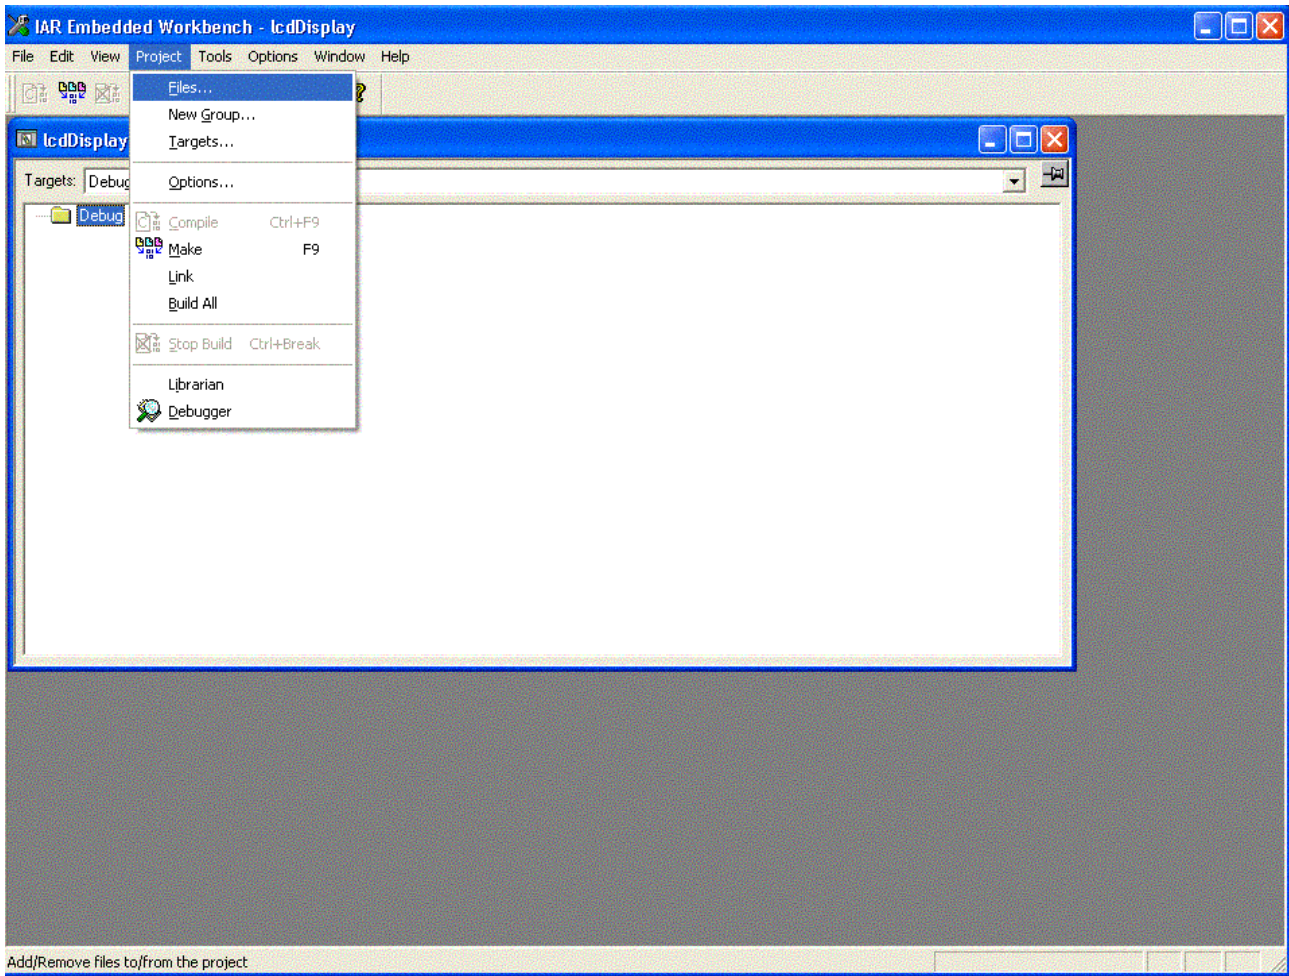

Figure 11: Showing procedure in building software, Step 5.
Step 5: Since we want to look at the lcd for our “Hello” message, select (click on) **LcdDisplay** and then click on **create**. Click yes for replacing the existing .prj file. This will produce the screen shown in Figure 11 after you click **Project**.